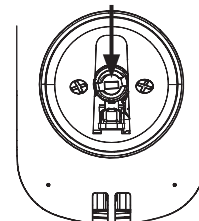

Figure 7A
- Install inside escutcheon on inside mounting plate. Note in Fig. 7A the horizontal orientation of the tail piece as you insert the inside escutcheon (thumb turn should be vertical).
- Install and secure using (3) M4 x 8mm [8-32 x 5/16"] pan head screws through the inside escutcheon into the mounting plate.
- Insert four (4) AA alkaline batteries. Lock responds, **“Welcome to Yale Real Living™”** and will adjust for proper handing of the lock.